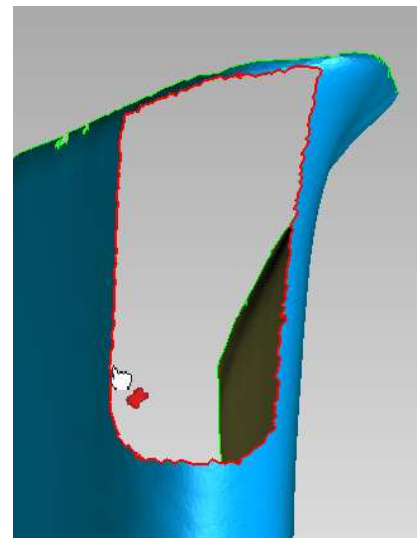

Figure 85
2. **Rotate** and **Zoom** to the view shown in **Figure 85** at the upper right corner where you deleted triangles earlier.